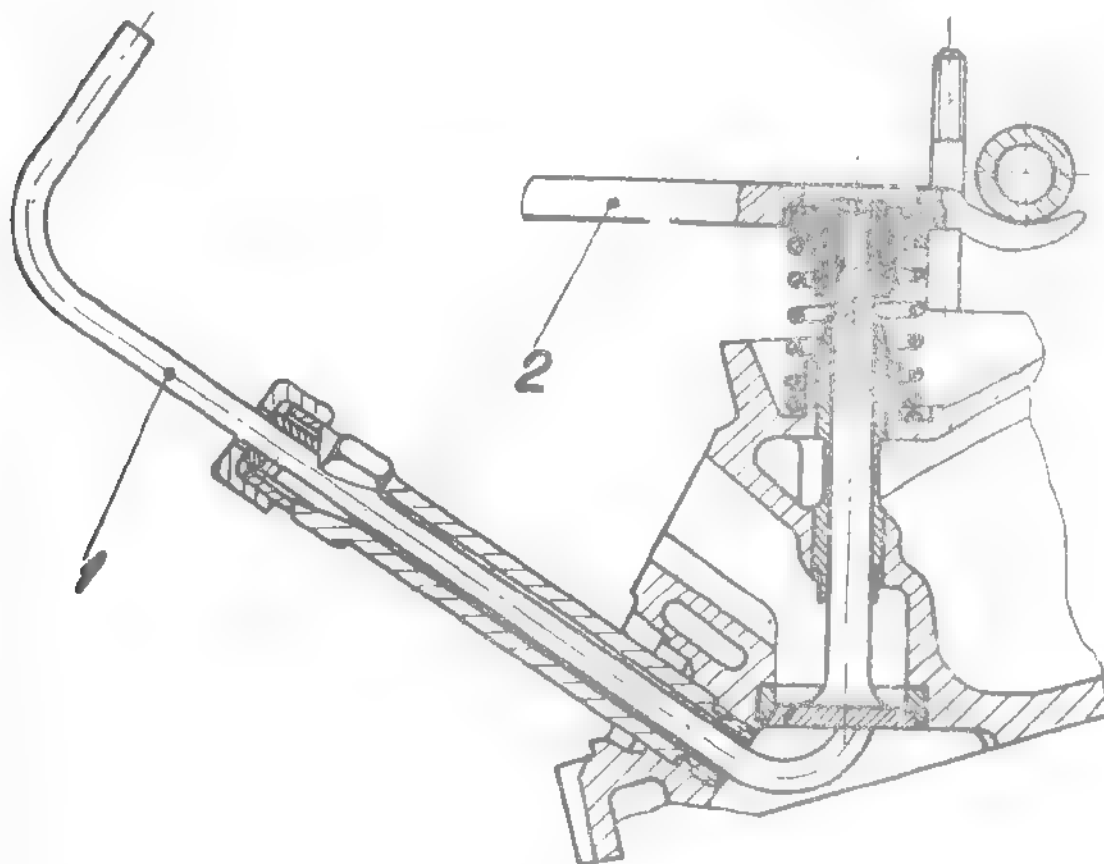

Fig. 4.47. REPLACING VALVE SPRING WITHOUT TAKING CYLINDER HEAD
- Screw in the free threaded hole D 7 device, as shown in Fig. 4.47. pos. 1
- Shift aside the rocker arm and introduce under rocker arm shaft the lever of D-6 device (see Fig. 4.47, pos.2).
- By means of D 6 device take down in succession exhaust and inlet valves (see Fig. 4.47) (see Op. 2.1.03.01.0). Press down the spring and remove the two half cotters. By releasing the lever, the valve spring extends completely and can be removed together with the valve spring seat.